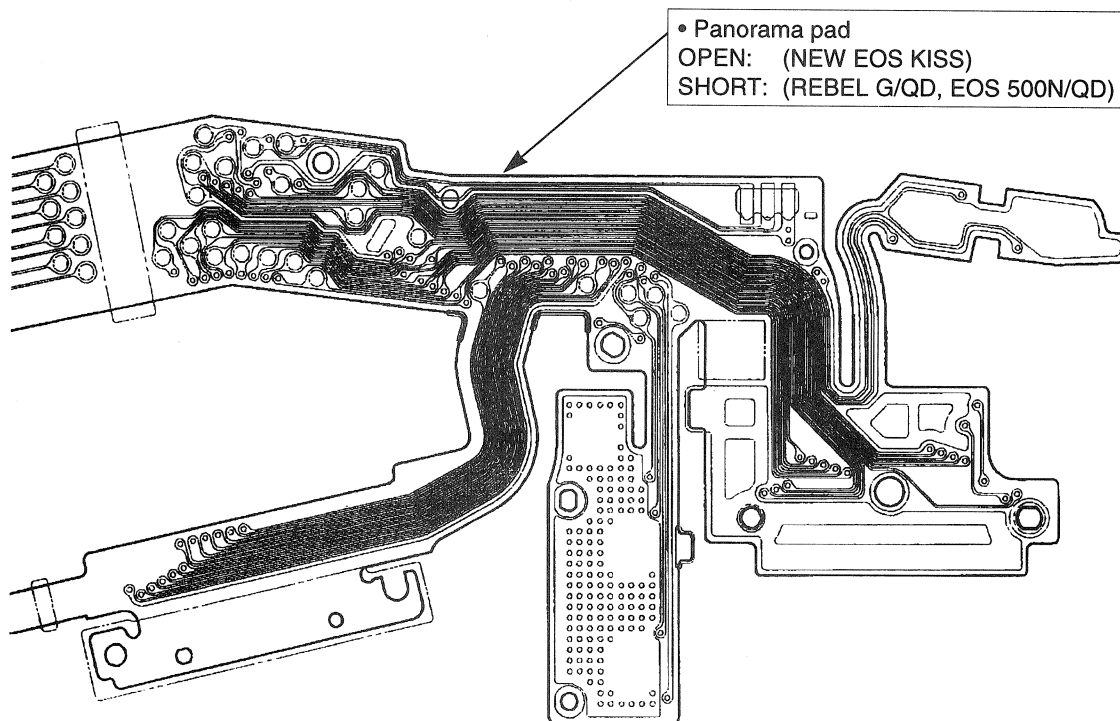

Figure 3-27 Panorama Pad
- The DSP flex for panorama types differs from that for QD types. Besides differences in the main flex unit, the state of the panorama pads on the DSP flex also is different. (Fig. 3-27)